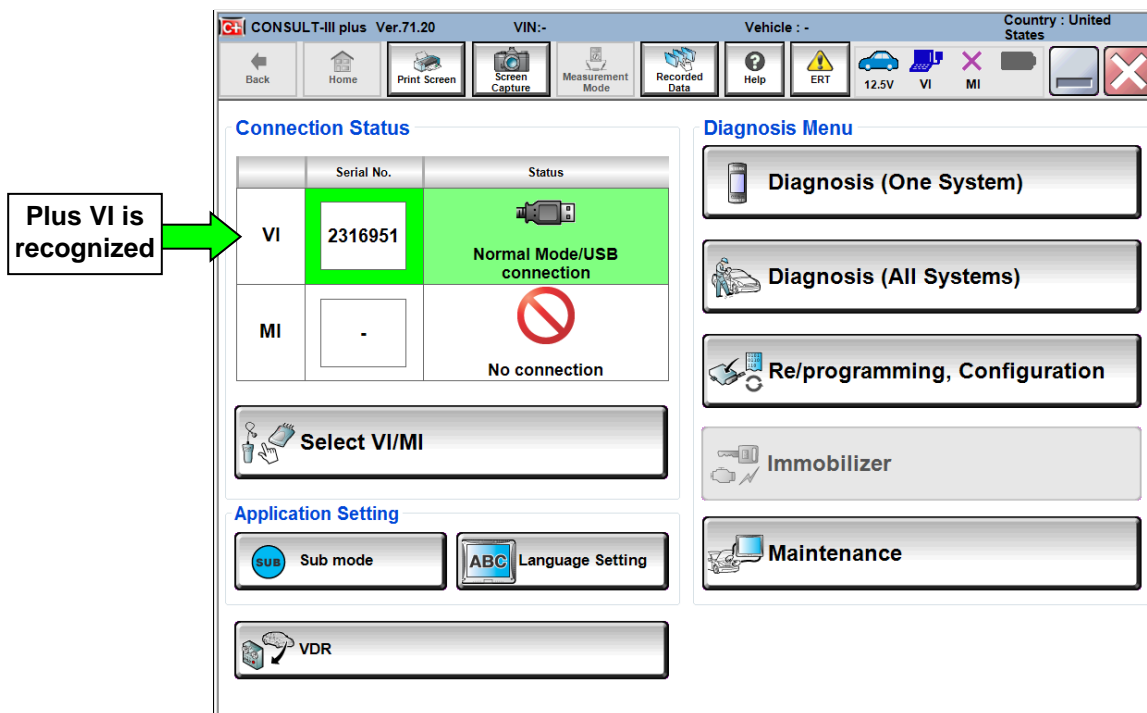

Figure 1
9. Wait for the plus VI to be recognized / connected (see Figure 1).